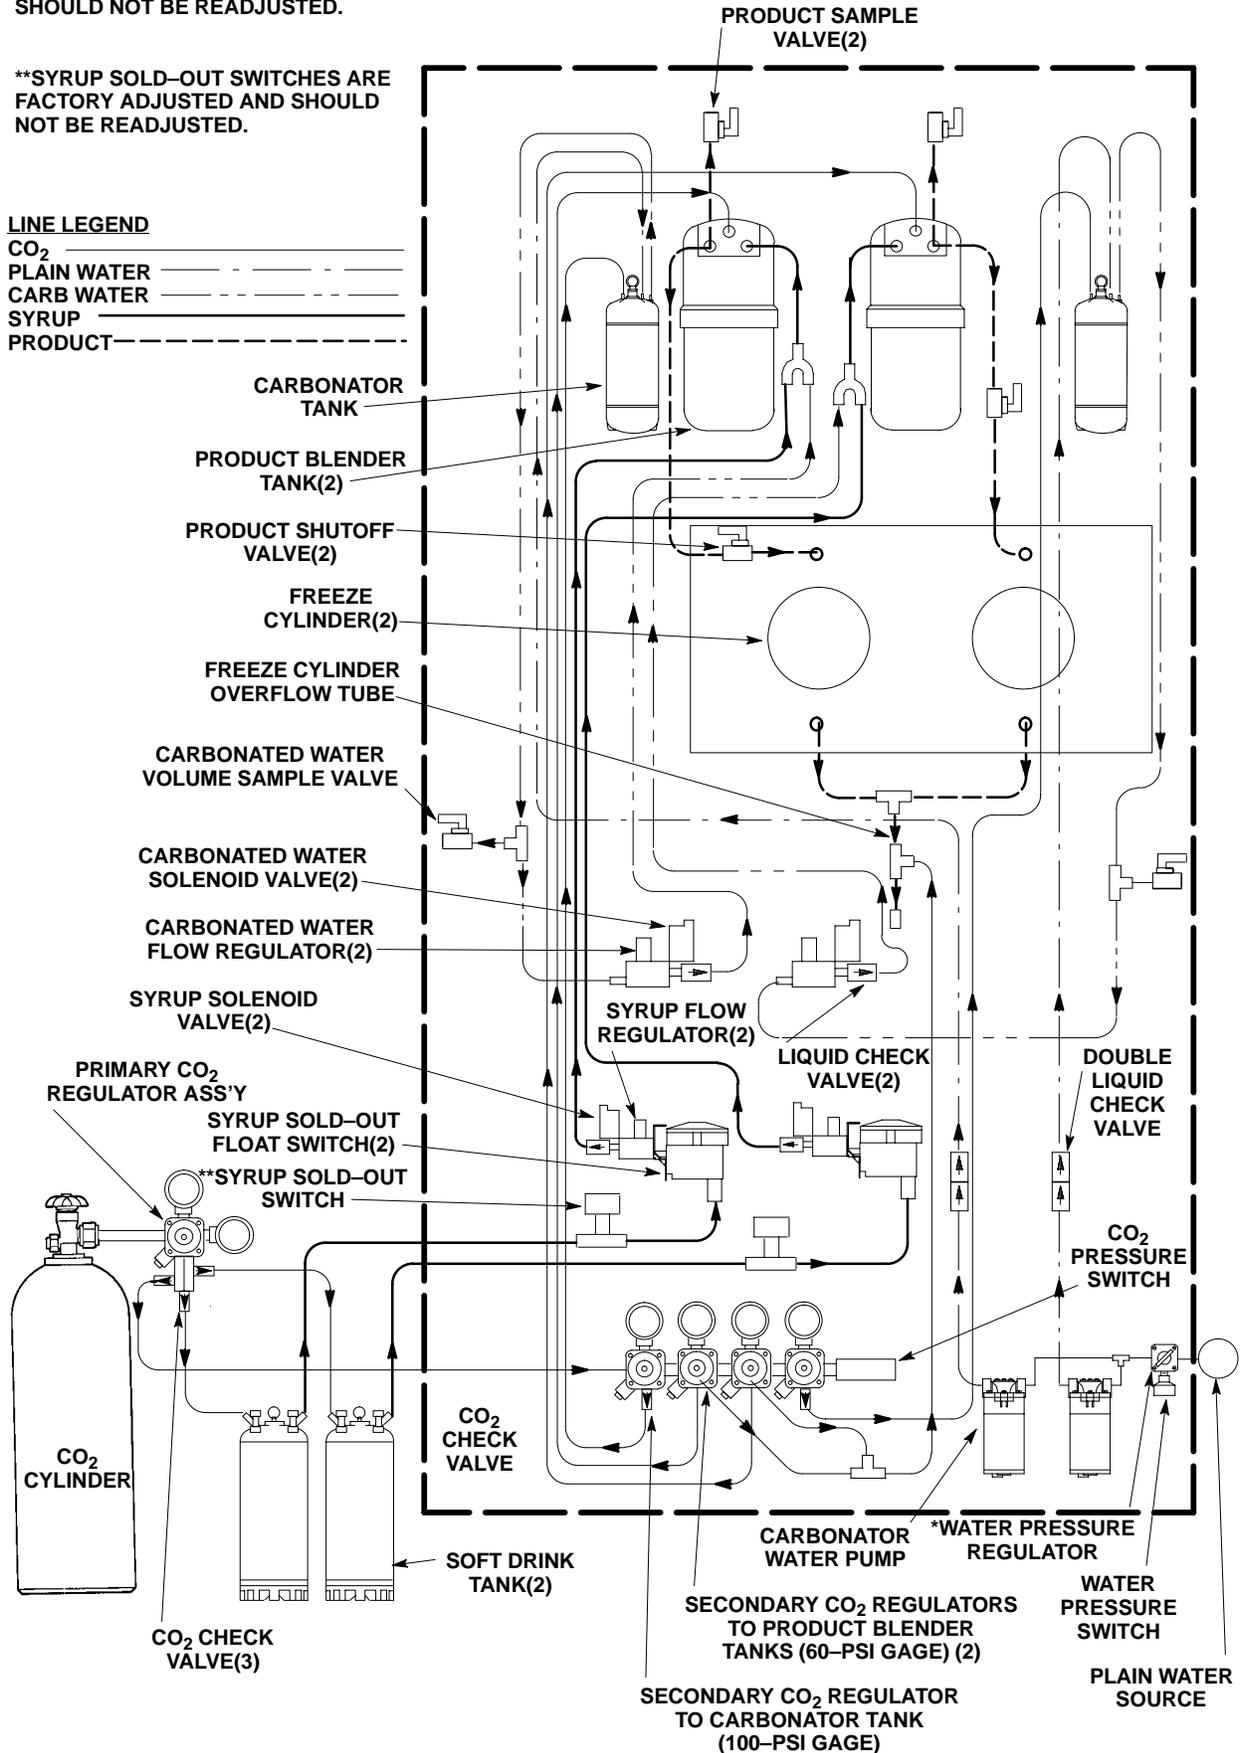

FIGURE 2. FLOW DIAGRAM
(see Figure 2)
Note: The following paragraph describes the theory of operation for the Two-Flavor FCB Dispenser (see Figure 2).
1. Connect soft drink tanks CO₂ lines to primary CO₂ regulator manifold assembly as shown in Figure 2.
NOTE: The carbonator plain water inlet adjustable water pressure regulator (see Figure 2) is factory adjusted to 45-psi and should not be readjusted.
IMPORTANT: If bag-in-box syrup supply system will be connected to the Unit instead of soft drink tanks, the primary CO₂ regulator (see figure 2) *must* be adjusted to no less than 80-PSI.
2. For soft drink tanks installation (see Figure 2), adjust primary CO₂ regulator by turning regulator adjusting screw to the right (clockwise) until regulator pressure reads 80 to 100-psig. OUT OF CO₂ warning light on control panel message display should have gone out.